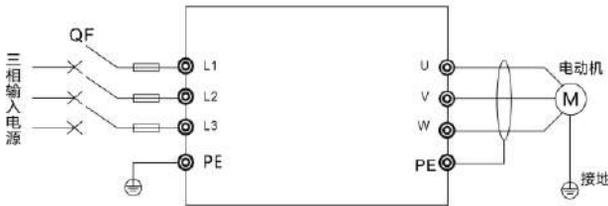

Fig. 4-1 Wiring diagram of commissioning
(1) Before connecting input power supply to the inverter, confirm that the power supply voltage is within the rated input voltage range of the inverter.
(2) Wire according to Figure 4-1;
(3) After confirming that the wiring is correct, the inverter is powered on and displays “H-Y” and then “50.00”.
(4) Control mode selection, P00.00 = 0, V / F control mode;
(5) Command source selection, P00.01 = 0, keyboard control;
(6) Frequency source selection, P00.02 = 0, the keyboard digital setting, and set the preset frequency P00.08 = 0.0;
(7) Press the key “” to start the inverter, the inverter output frequency is 0, the keyboard
- (1) Wire the inverter as shown in Figure 4-1, confirm that the wiring is correct and then switch on.
- (2) Set the following parameters in the following order: